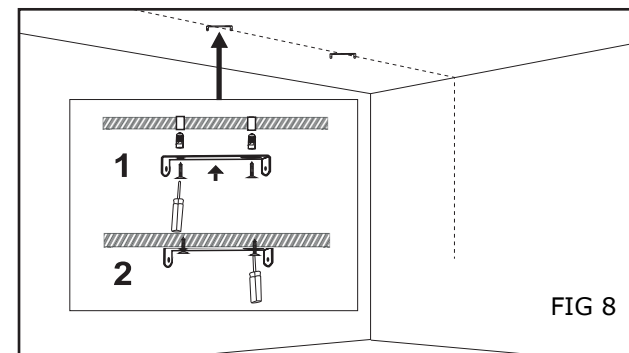

FIG 8
3. Fix the lifting accessories on the ceiling, check whether the accessories are firmly installed and ensure the safety of installation (Fig 8).